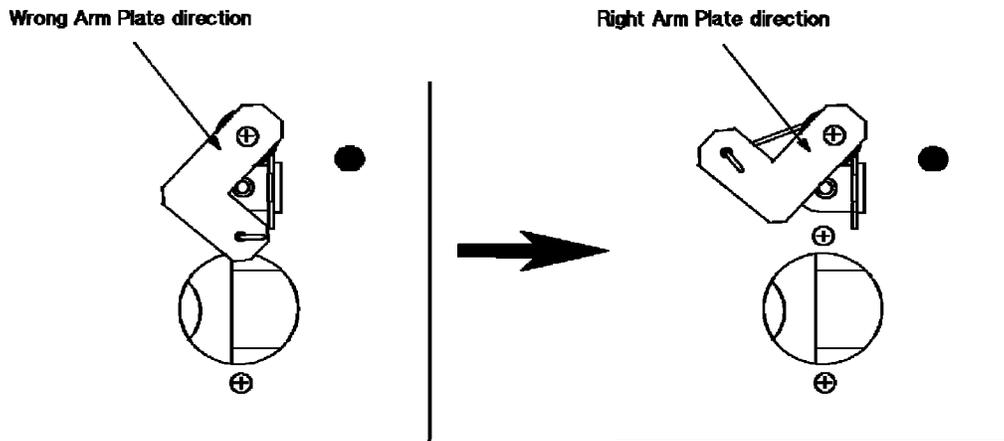

Figure 1. Correction of the Arm Plate Direction
2. Check the arm plate direction by referring to Figure 1. If the arm plate is attached in the wrong direction, then perform the following steps.